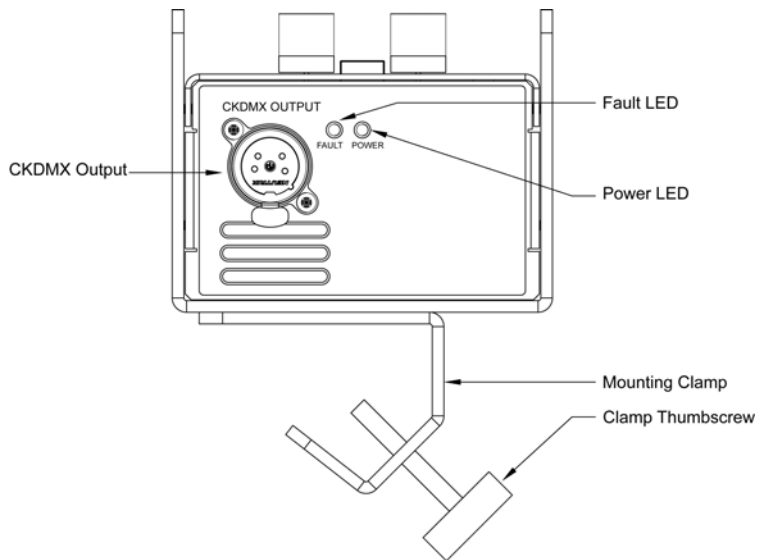

Figure 1, iW Blast 12 TR Controller, top view
1. If stand mounting is desired, mount the Controller Power/Supply on the stand using the built-in mounting clamp on the back of the unit (see figure 1). Be careful not to over-tighten.
2. Connect the iW Blast 4P XLR Control/Power cable to the CKDMX Output (see figure 1).
- When the unit is powered from a CTI # 6280 Battery base, the POWER LED (See figure 1) will begin to blink when the battery is low and needs to be recharged.